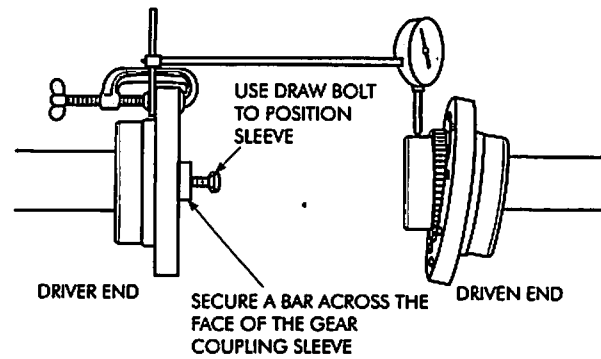

Figure 4
- Install and align the Type G gear coupling sleeves and hubs per Manual 458-110. Refer to alignment instructions for couplings with spacer or short floating shaft/and with flex hubs on driver & driven shaft extensions. Figure 4 herein also shows a method of mounting a dial indicator to perform an alignment check.